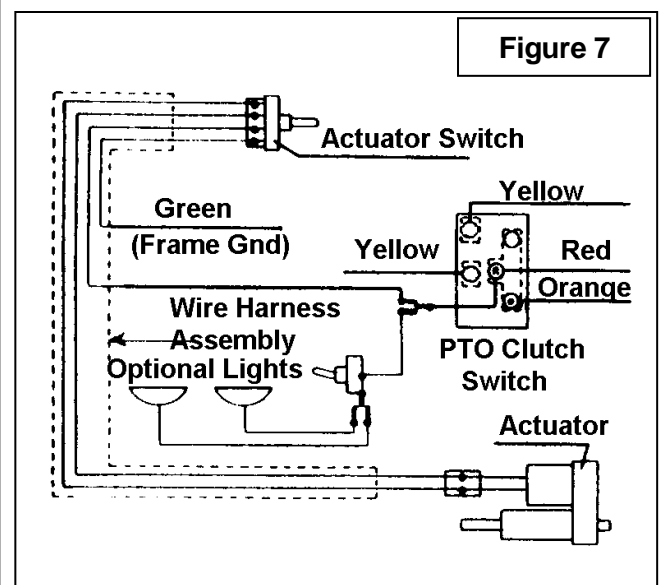

Figure 7
9. **Figure 7:** Check wiring diagram and correct if necessary.